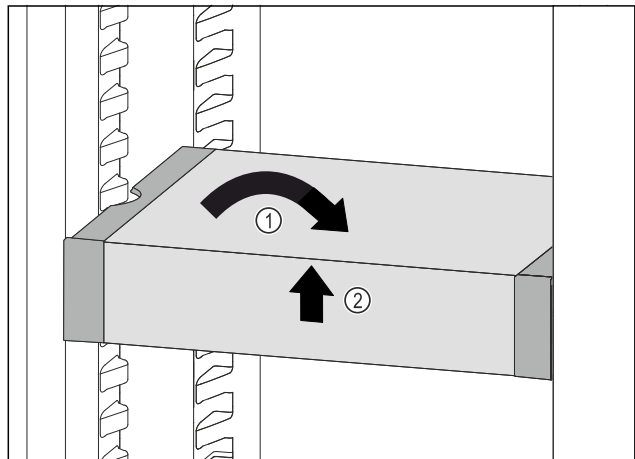

Fig. 79
- ▶ Set VarioSafe straight. Fig. 79 (1)
- ▶ Lift VarioSafe at the front. Fig. 79 (2)